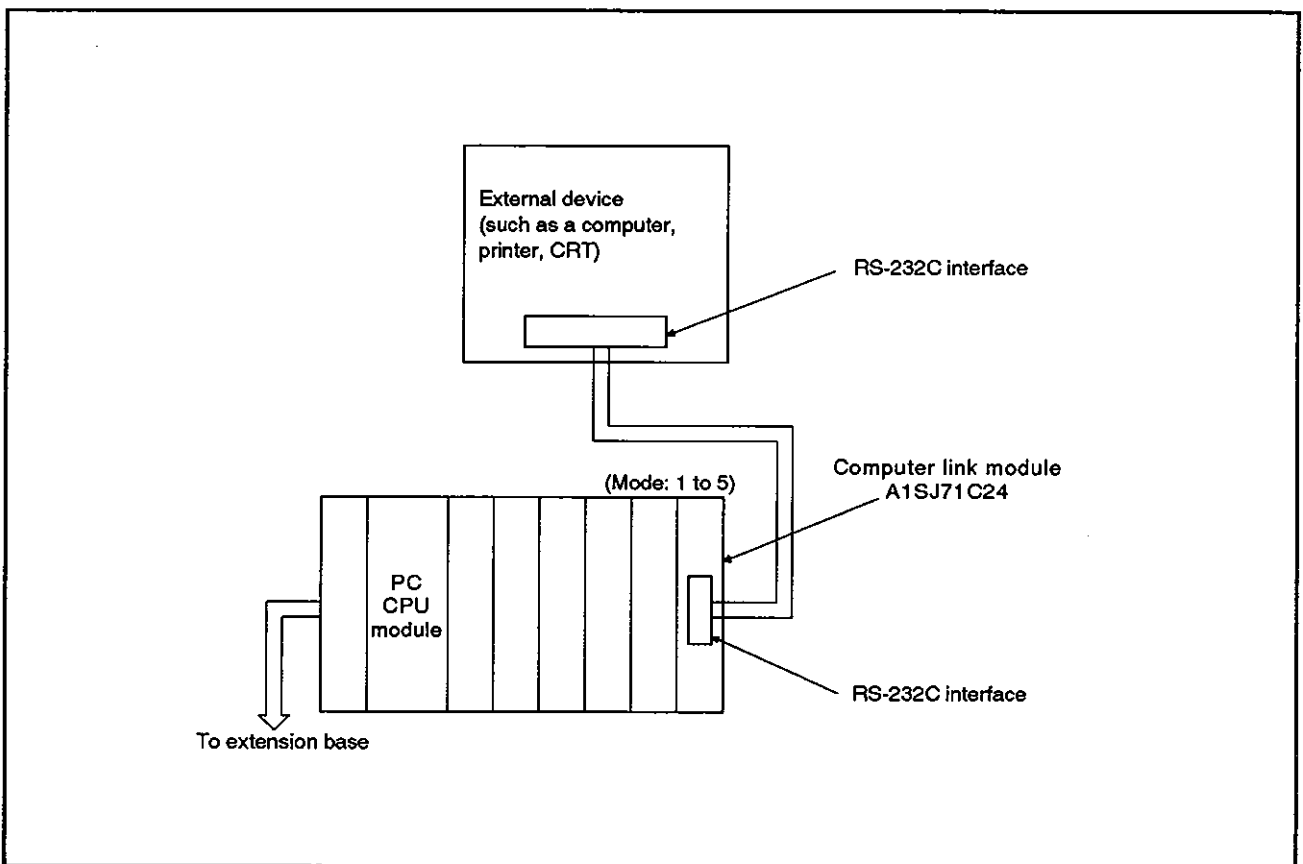

Fig. 2.2 System Configurations
- (1) The system configuration for an external device (such as a computer) to a PC CPU is shown in Fig. 2.2 below.